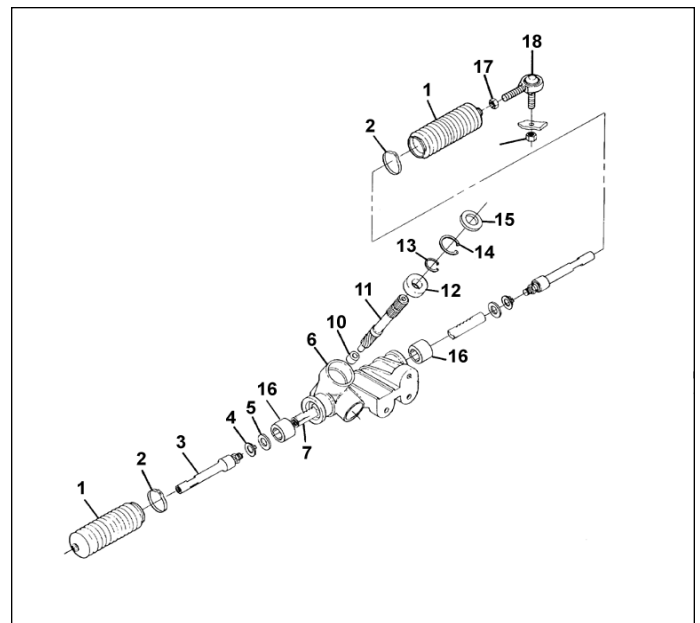

Figure 9 - Rack and Pinion Assembly
1. Remove oil seal from pinion gear. See Figure 9 #15.
2. Remove large retained ring from steering housing and lift pinion gear from housing (Figure 9 #14).
4. Remove clamp from boot at each end of housing (Figure 9 #2). Slide boots (Figure 9 #1) from housing.
6. Remove rack gear (Figure 9 #7) from steering housing.
2. Insert rack gear (Figure 9 #7) into housing. Insert pinion gear (Figure 9 #11) into top of steering housing, align pinion gear to rack gear.
3. Insert retaining ring (Figure 9 #12) to lock pinion gear and bearing into steering housing
4. Install additional grease over pinion bearing, insert oil seal (Figure 9 #15) into housing over pinion gear.
5. Thread tie rod with retaining washer (Figure 9 #5) and lock washer (Figure 9 #4) into rack gear ends. Use locktite on threaded area. Torque ball joint and bend lock tab against ball joint to prevent loosening. Repeat on opposite side.